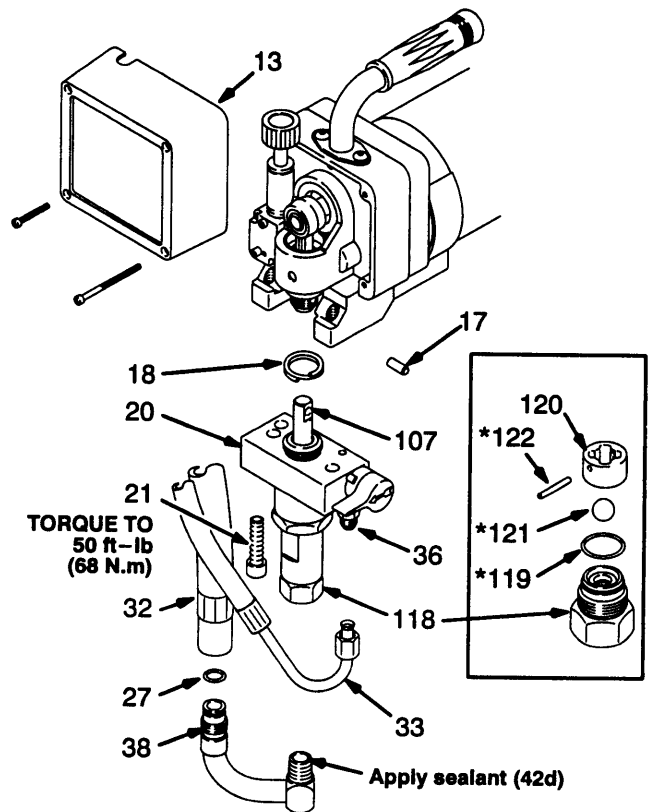

Fig 21-1
Removing the pump (See Fig 21-1)
Intake valve repair (See Fig 21-1)
Installing the pump (See Fig 21-1 and 21-2)
1. Remove the drive housing (11), but do not remove the pressure control (64). See page 26.
2. Push up the retaining spring (18). Push the pin (17) out the rear. See Fig 21-1, page 21.